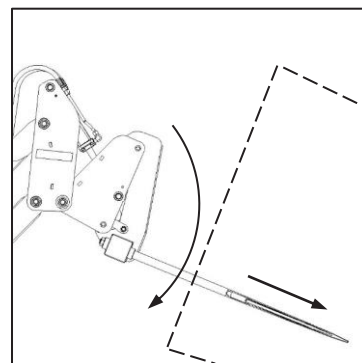

Fig. 2
- ✔ In cases where hay bales are being transferred to other equipment (such as hoppers, shredders or feed mixers), the head of the Uniloader® should be tilted downwards to assist with the ejection of the hay bale (Fig. 2).
- ✔ In gevalle waar die bale na ander toerusting oorgeplaas word (soos bakke, kerwers of voermengers), moet die kop van die Uniloader® afwaarts gekantel word om met die aflaai van die baal te help (Fig. 2).